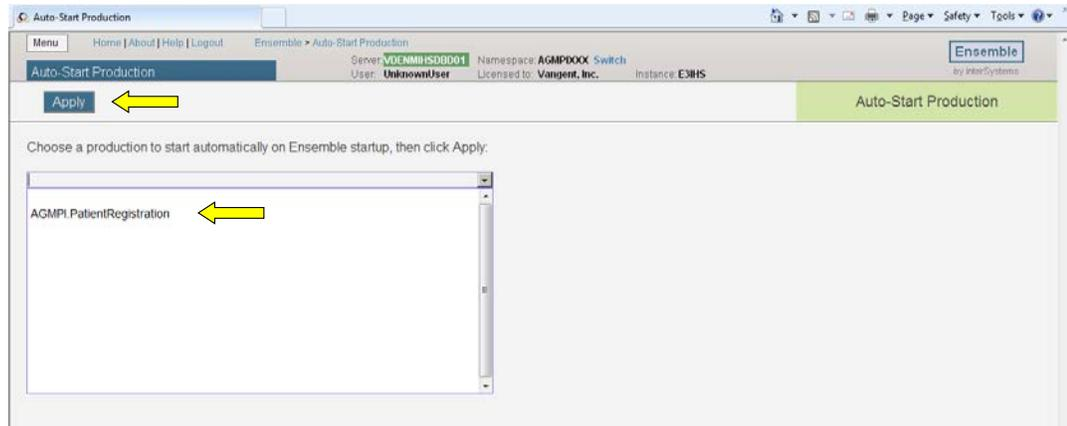

Figure 9-5: **Auto-Start Production** page
- On the **Auto-Start Production** page, select AGMPI.PatientRegistration from the **Choose a production to start automatically on Ensemble startup, then click Apply** list as shown in Figure 9-5. Click the **Apply** button to save the setting.